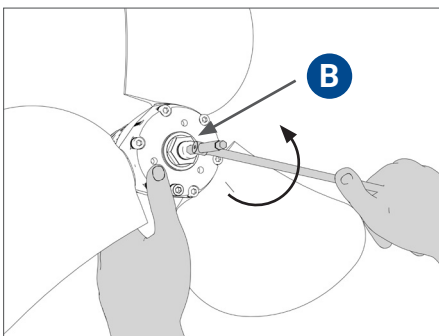

FIG. 34 Unscrew safety bolt "B"
- Loosen the safety bolt **B** (if it was installed) counterclockwise (Fig. 34).